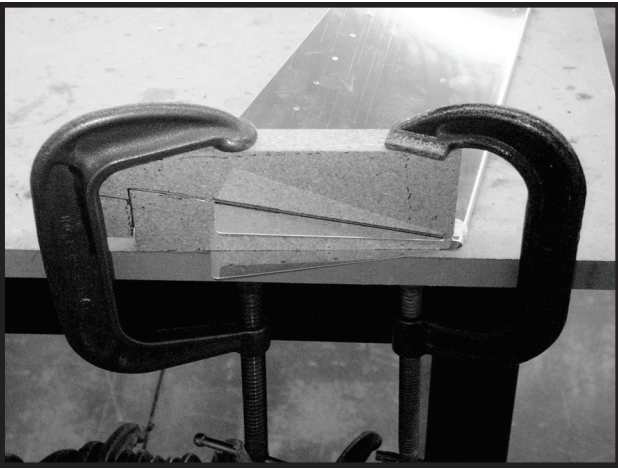

Figure 6-1
- ❑ Fabricate a set of bending blocks from particleboard or wood. The taper of the inside block should approximate the completed bend angle of the E-701-L elevator skin. Clamp the skin and blocks to the edge of a table (See Figure 6-1). Use double-sided tape between the mating surfaces of the bending blocks and the E-701-L skin, to prevent the wedge shaped blocks from slipping.
- ❑ Fabricate a set of bending blocks from wood or particleboard (See Figure 6-1,6-2,6-3 and 6-4). Note that the upper block hooks over the lower block to prevent the wedge shaped blocks from slipping. The taper of the inside block should approximate the completed bend angle of the trim tab skin.
- ❑ Clamp the inboard end of the tab with the bending blocks to the edge of a table (See Figure 6-1) Use double-sided tape between the mating surfaces of the bending blocks and the trim tab skin to help prevent the wedge shaped blocks from slipping.